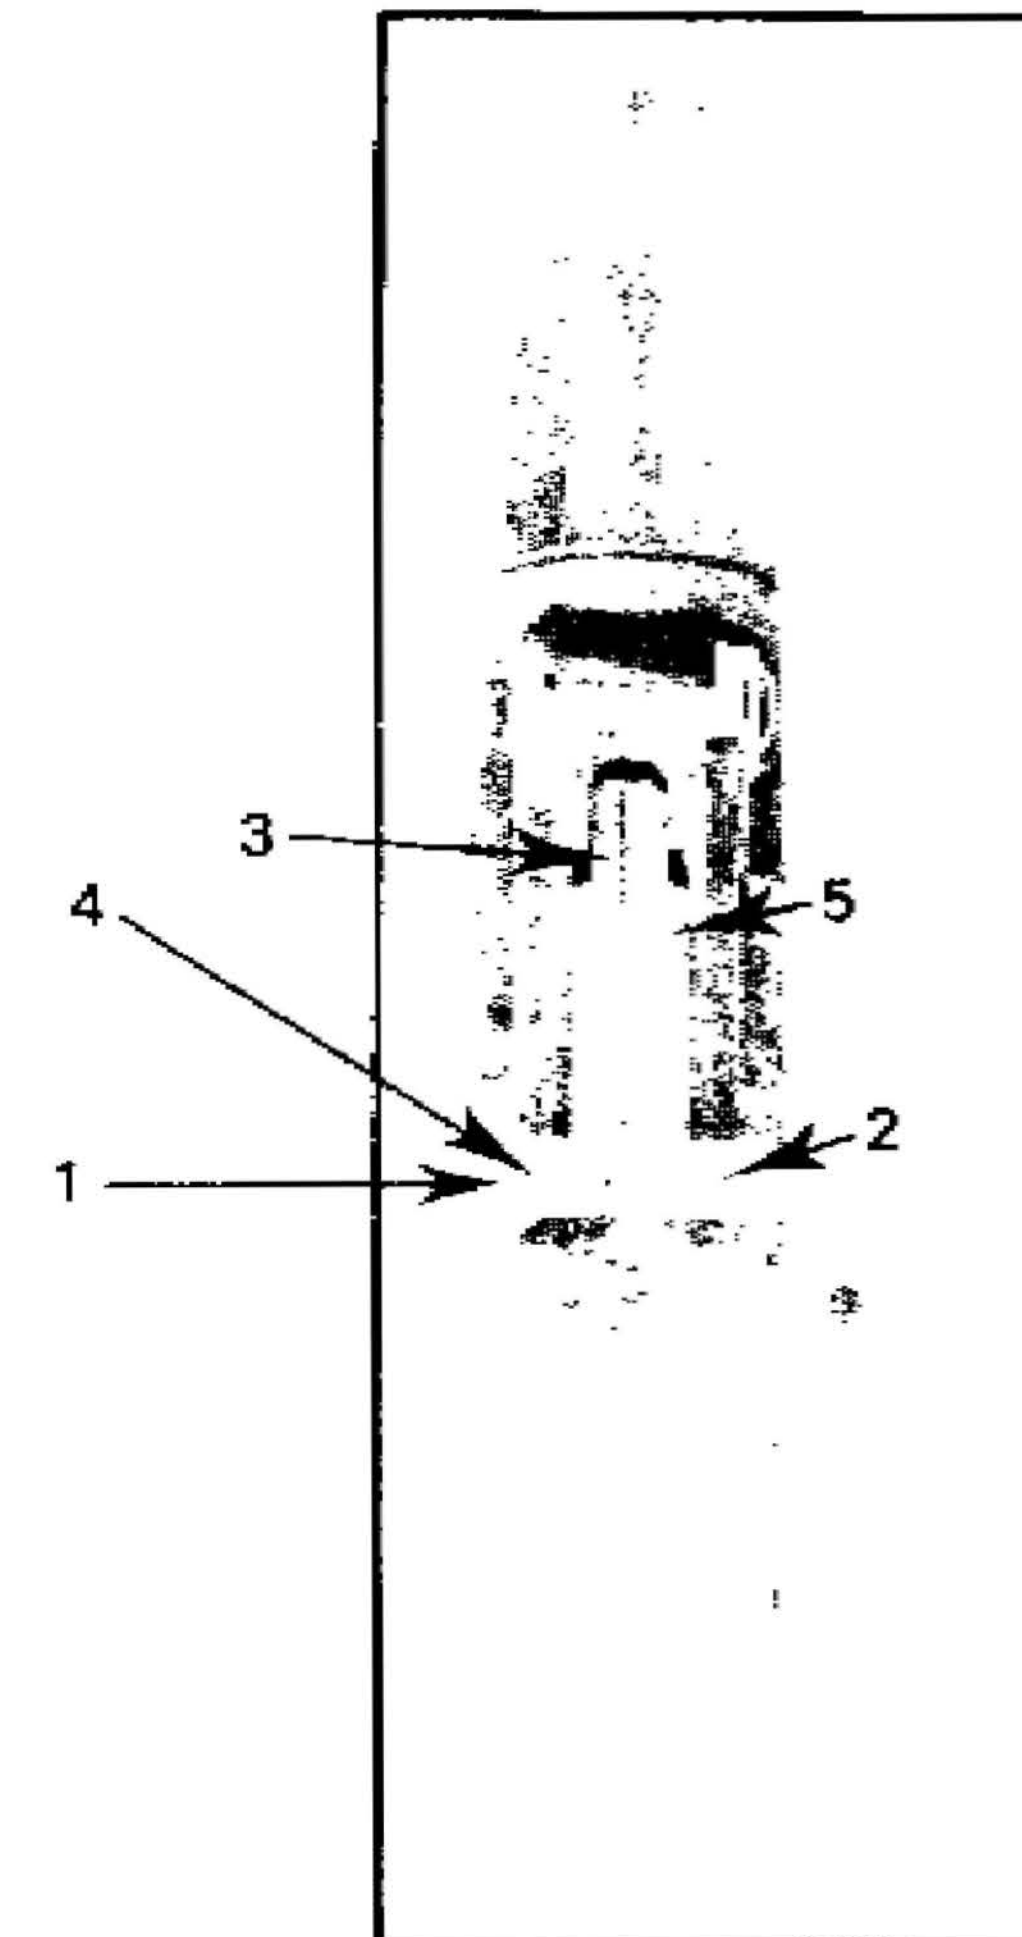

FIGURE 17. REAR SIGHT
**Zeroing:** Set the rear sight for the desired range by pressing in on the slide catch and moving the slide bar along the leaf until the front edge of the bar is aligned with the line below the number that corresponds with the range in meters (fig 17).